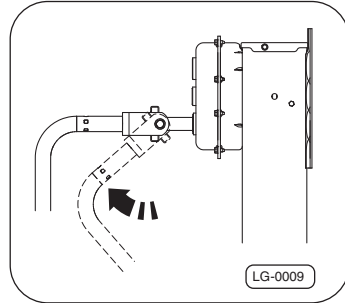

Fig. 8 · Engaging the crank handle
The comfort crank handle –arrow–, Fig. 8 automatically clicks into place in the horizontal operating position.
1. Attach crank handle –arrow –, Fig. 8.